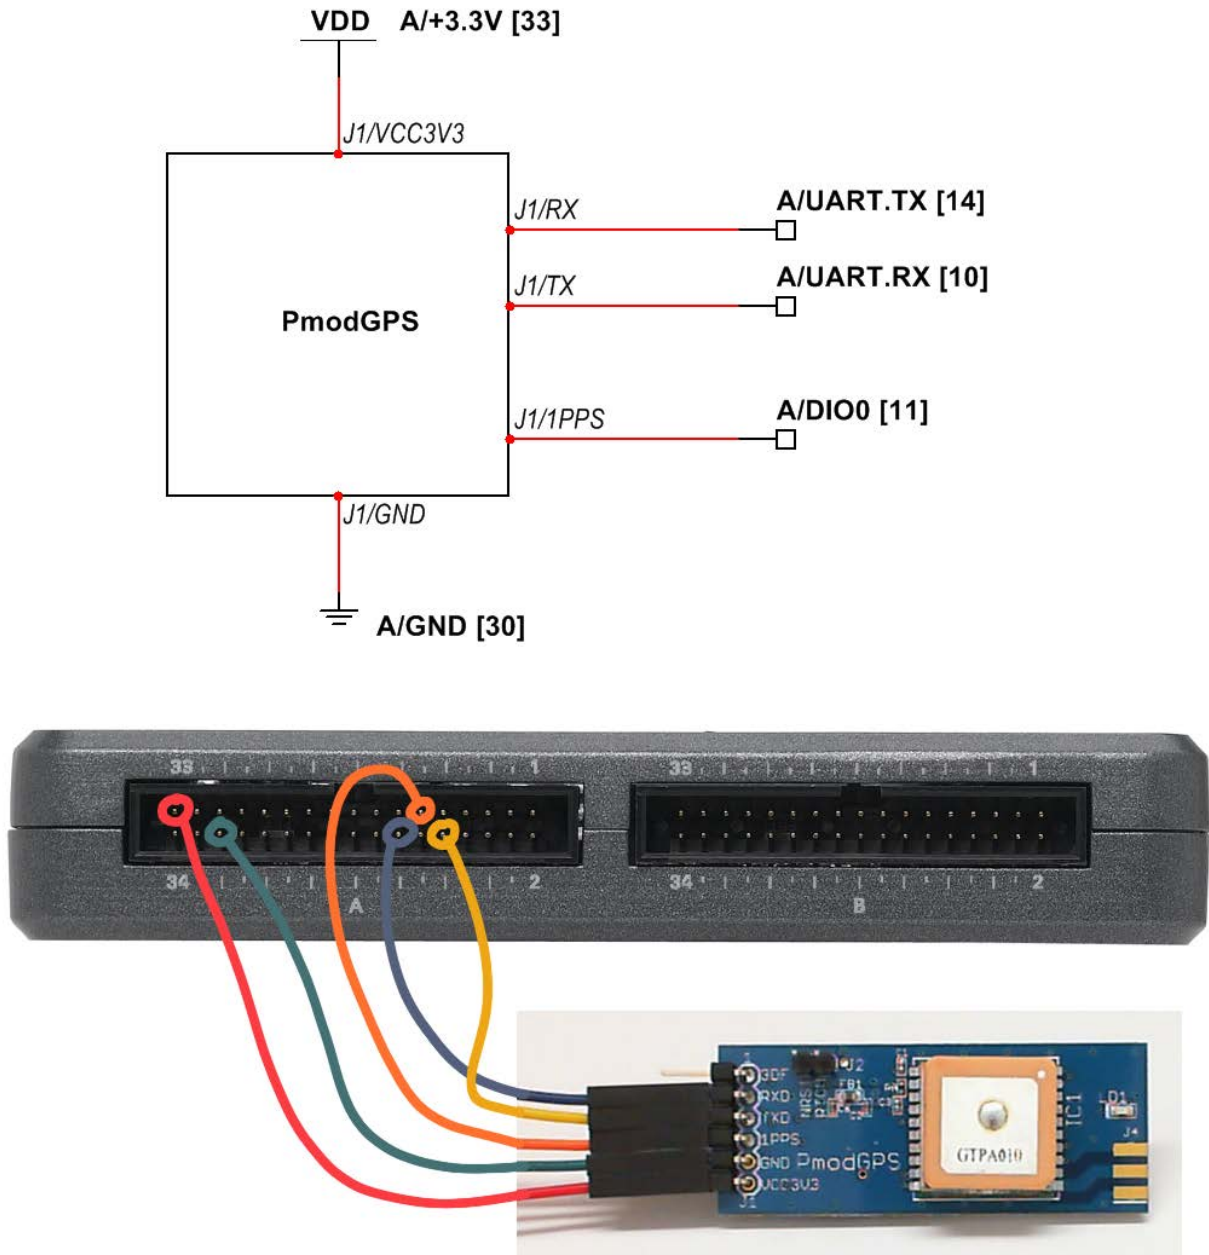

Figure 38.2: Demonstration setup for GPS receiver connected to NI myRIO MXP Connector A.
**Build the interface circuit:** Refer to the schematic diagram shown in Figure 38.2 on the following page; the GPS receiver requires five connections to NI myRIO MXP Connector A (see Figure A.1 on page 233):